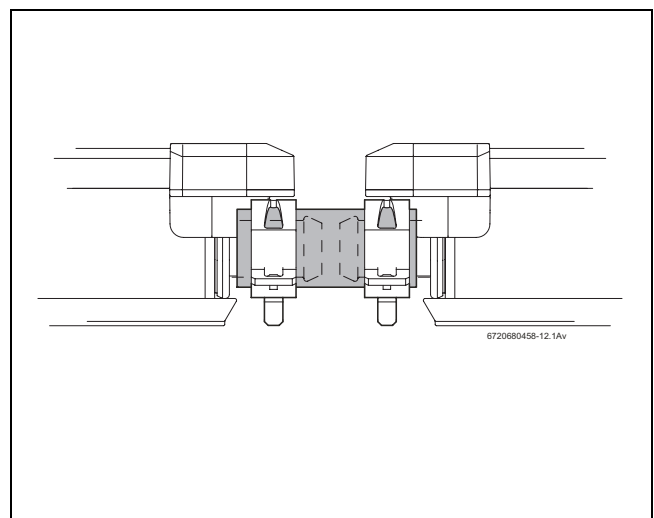

Fig. 44 Solar hose with secured jubilee clips
- ▶ Secure every solar hose to the collector connection with the hose clip (Fig. 44).